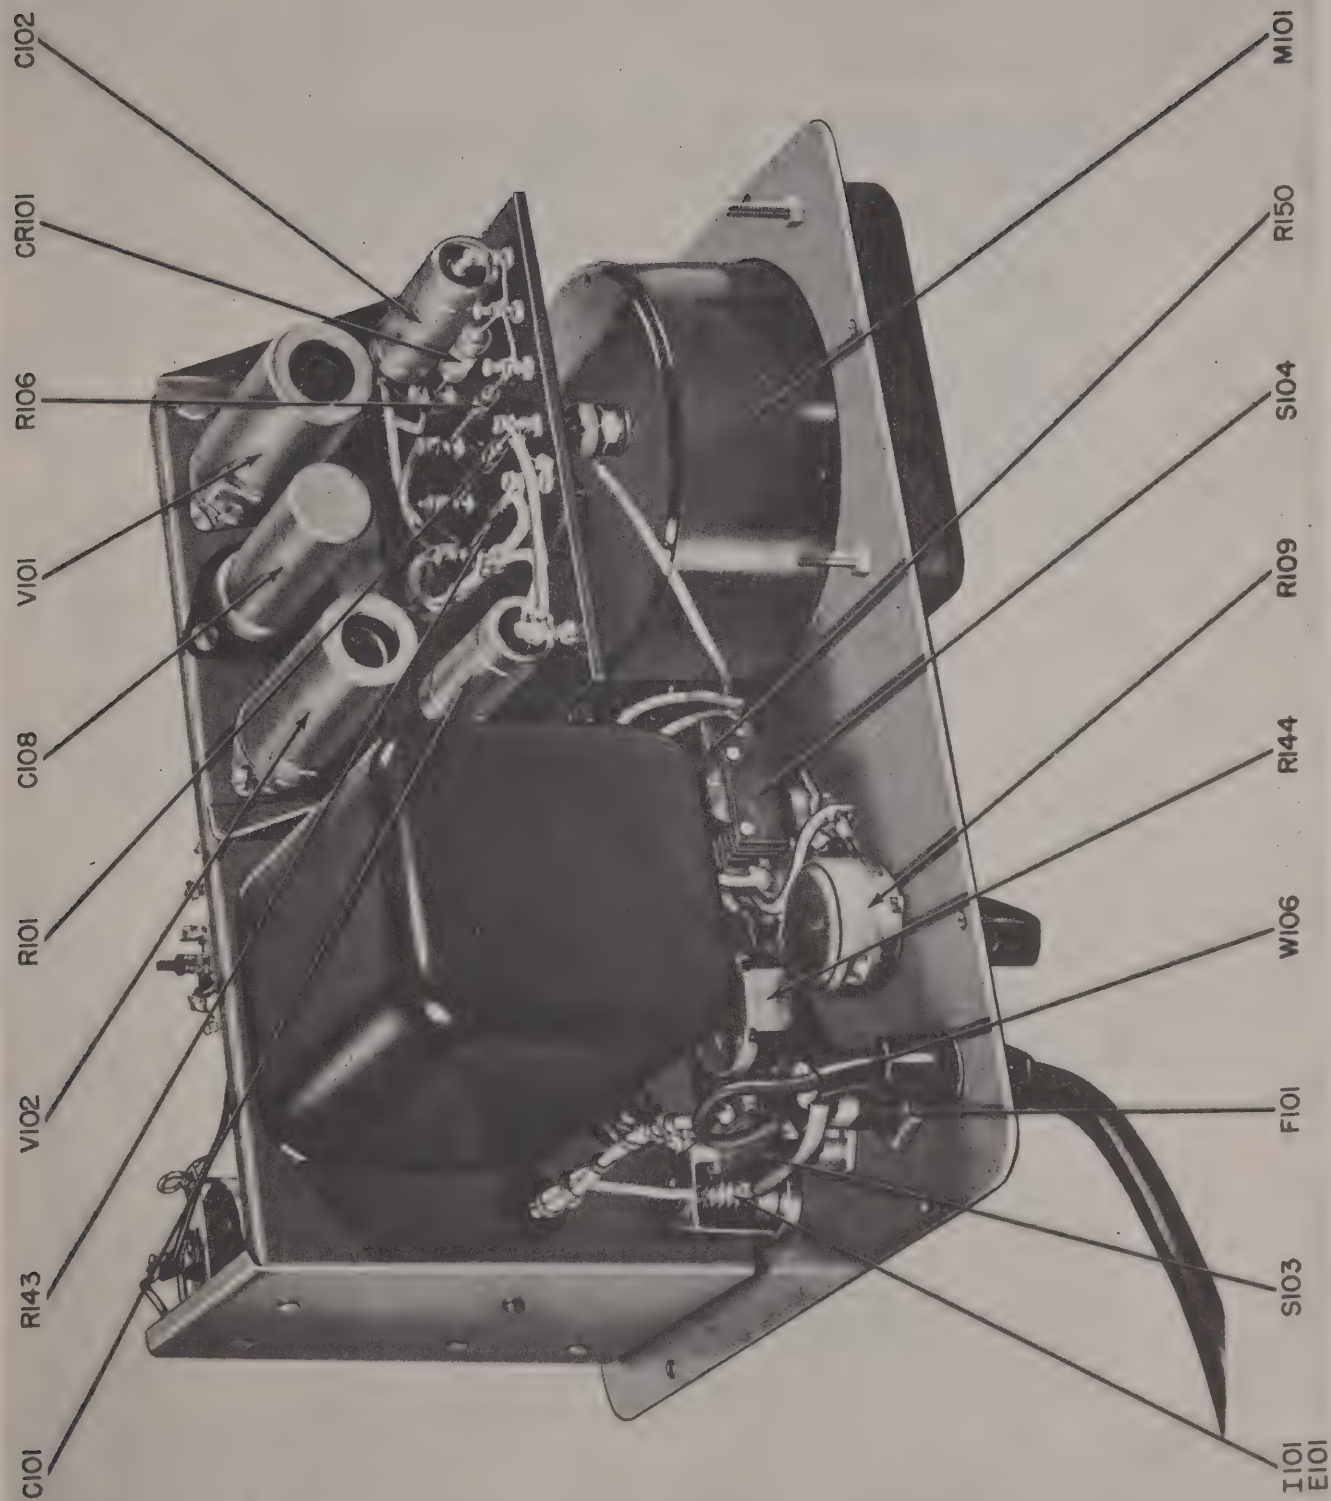

Figure 6-3. Multimeter ME-25A/U, Case Removed, Top View
- Figures 6-3 through 6-9 are internal views of the unit showing the location of tubes and component parts.
- Replace any tubes not functioning properly. The location of these tubes is shown in Figures 6-3 and 6-6. Any good tube of the same type as that employed may be used for replacement, but replacement of V101 may necessitate calibration control adjustments.
- Adjust the meter needle to zero with the ZERO ADJUST control R109, Figures 6-3 and 6-6. No external voltage should be applied for this adjustment.
(4) If recalibration is required on the 1000 volt AC range, it should be effected by the adjustment of resistance R108. Resistors R105, R106 and R107 should be checked to be sure they are at their approximately correct values.
- Apply a known DC voltage. If the meter does not indicate the proper voltage, adjust potentiometer R145 (See Fig. 6-3 and 6-6) until the meter indicates the applied voltage. This calibration corrects for either +DC or -DC.